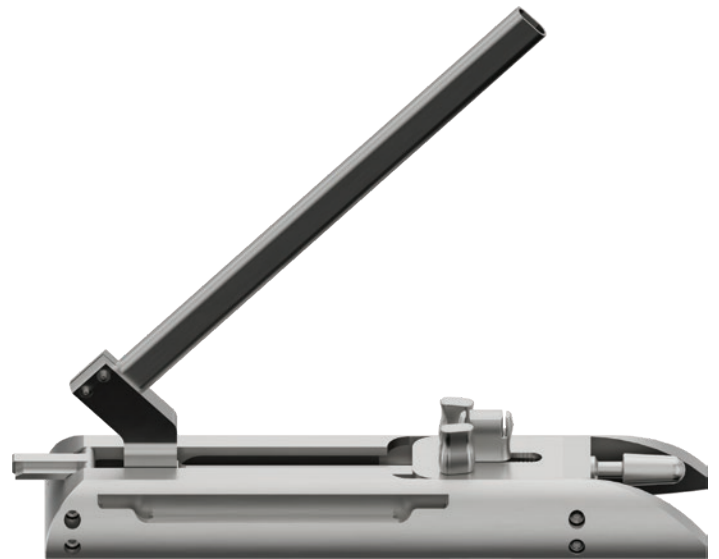

Fig. 2: Table Top Bender
Should bending of the plate be required, the Table Top Bender (ref 702900) may be used (Fig. 2).